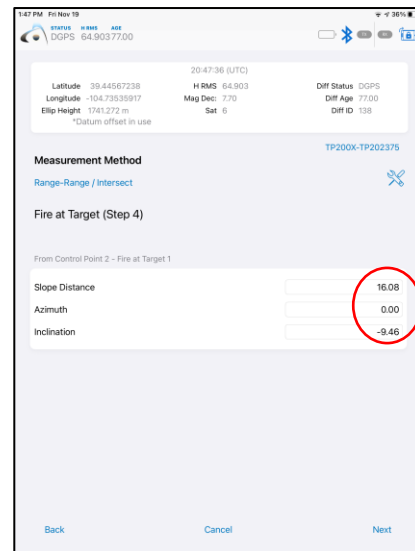

Figure 14A
- 14A. **Step #4:** Aim at the target again and measure the HD, confirm values for Slope Distance and Inclination come through (Figure 14A) and tap **Next**